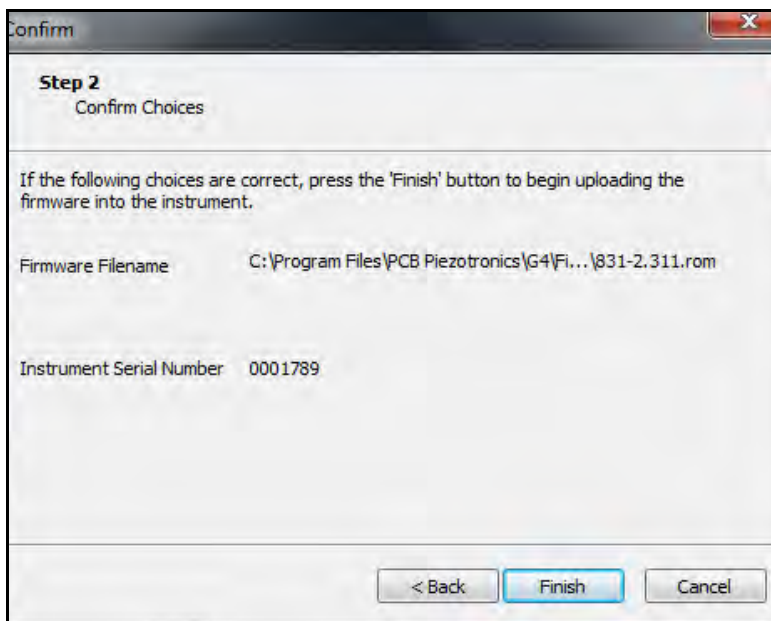

FIGURE 26-5 Confirm Choices Menu
Step 9 Click **Next** to display the Confirm Choices Menu, shown in FIGURE 26-5.